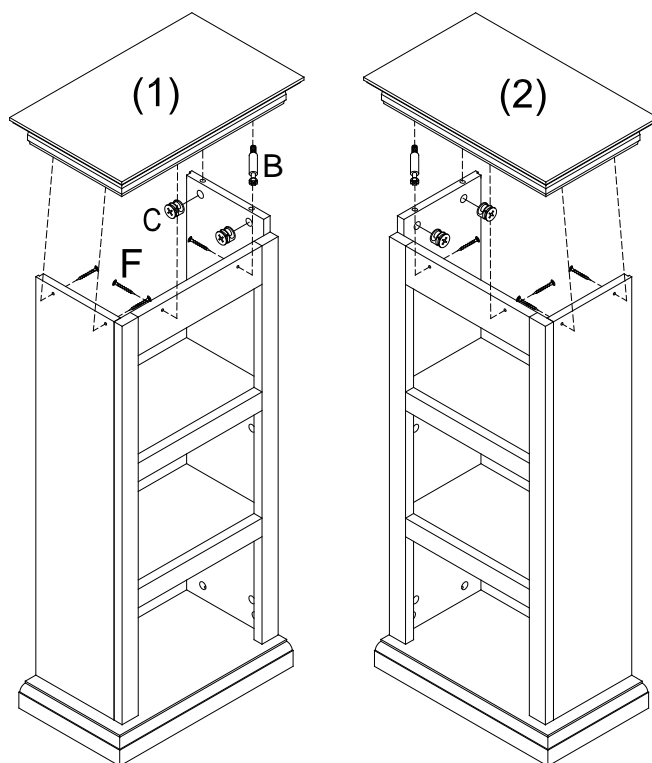

Figure 4
Insert Cam Locks (C) into holes on assembled unit on figure 4.
Connect Back Panels (10) to assembled unit on figure 4 with Screws (E).